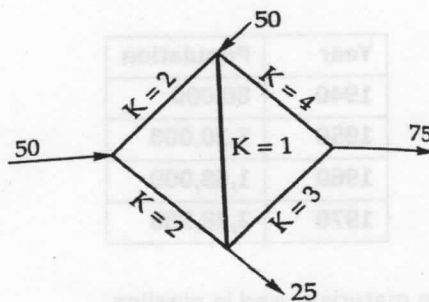

Figure 1
- Q. 7. Determine the distribution of flow in the pipe network shown in figure 1 below. The head loss may be assumed as KQ^n . The flow is turbulent and pipes are rough. The value of k for each pipe is indicated in the figure. Use Hardy Cross method. Derive also Hardy-Cross correction value. Also write following condition satisfied for analysis of complex pipe network. (15)